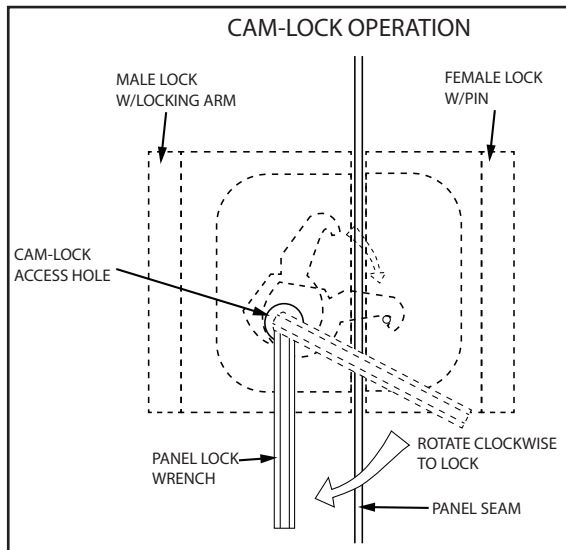

Figure 1: Cam-Lock
THIS UNIT IS BUILT WITH INTERLOCKING PANELS THAT UTILIZE SPECIAL CAM-LOCKS WHICH ALIGN AND LOCK INTO EACH OTHER. (See figure 1)
2. Connect all interlocking floor panels. To interlock the panels, use the supplied Allen wrench and insert it into the cam-lock hole. Turn clockwise 45° to 90° (max). (See figure 1) When you feel resistance, stop turning. Repeat on the next cam-lock. Test the connection by trying to separate the two panels.